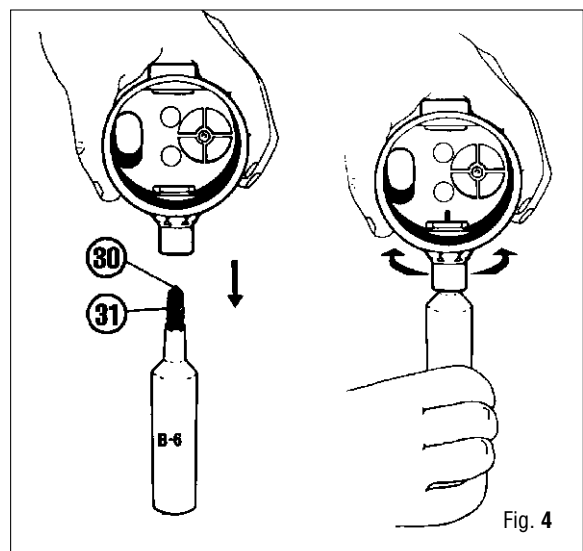

Fig. 4
10. Insert poppet assembly and spring into the inlet fitting 94. Align the square stem of the metal poppet body with the square hole of the poppet housing 91 and press inward to compress the spring. (See Fig. 4).